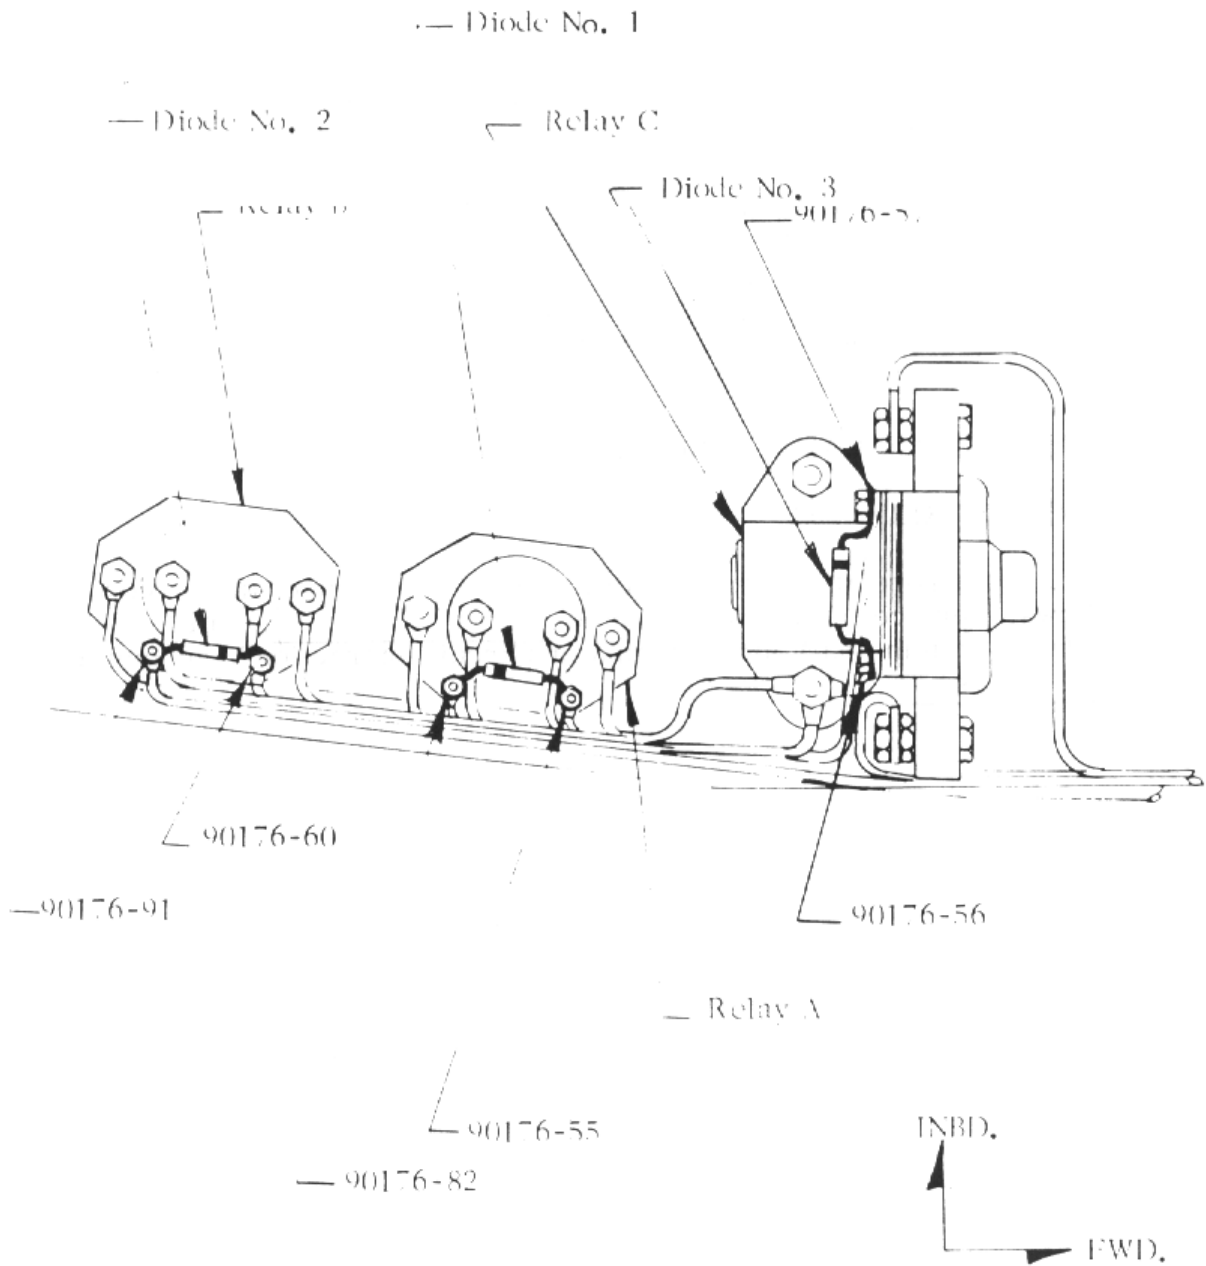

FIGURE 1
1. Connect the end of Diode No. 1 common to the band to the terminal on Relay A that has Wire No. 90176-82 connected. Connect other end of diode to the terminal on Relay A that has Wire No. 90176-55 connected. (Reference Figure 1).
2. Connect the end of Diode No. 2 common to the band to the terminal on Relay B that has Wire No. 90176-60 connected. Connect other end of diode to the terminal on Relay B that has Wire No. 90176-91 connected. (Reference Figure 1).
3. Connect the end of Diode No. 3 common to the band to the terminal on Relay C that has Wire No. 90176-57 connected. Connect other end of diode to the terminal on Relay C that has Wire No. 90176-56 connected. (Reference Figure 1).